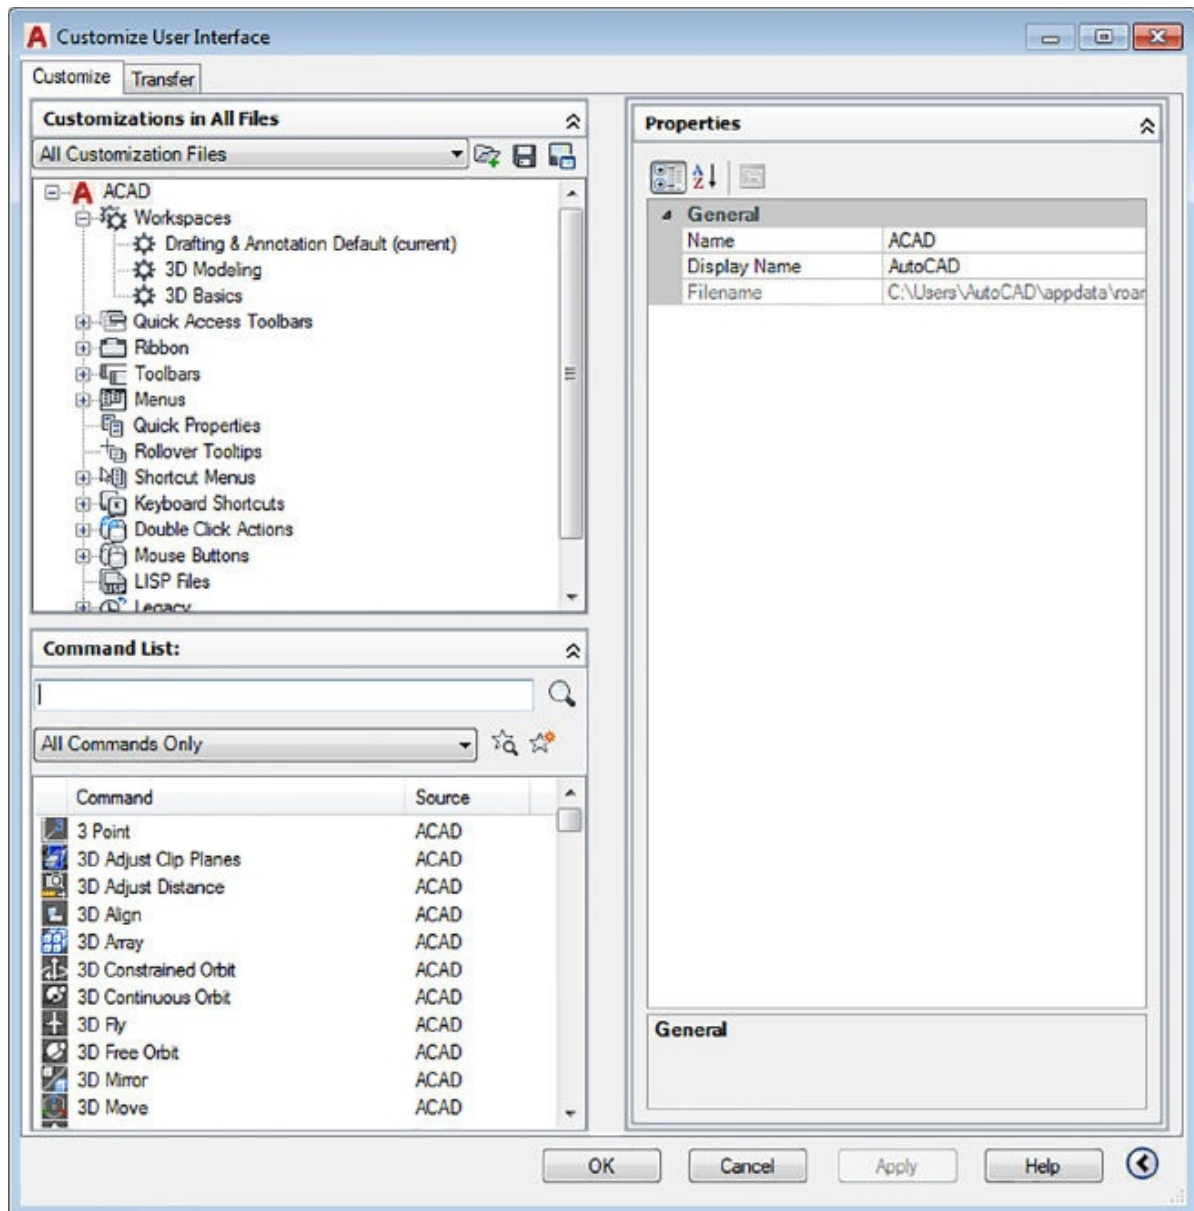

FIGURE 24.3 The Customize User Interface dialog box
2. Click the User Interface tool in the Manage tab's Customization panel to open the Customize User Interface dialog box, shown in Figure 24.3. You can also type **CUI**↵. You see three groups in this dialog box: Customizations In All Files, Command List, and Properties.